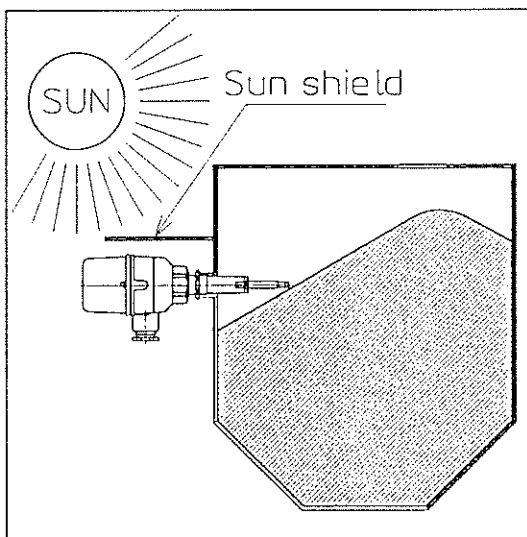

Fig. 4-1
- (3) Do not install the sensor where it gets direct sunlights.【See Fig. 4-1】